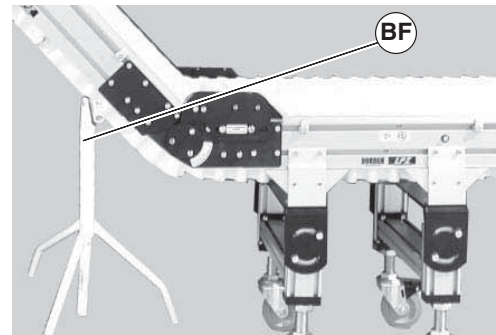

Figure 49
3. Loosen screws (Figure 49, item AK and BI) on both sides of knuckle.